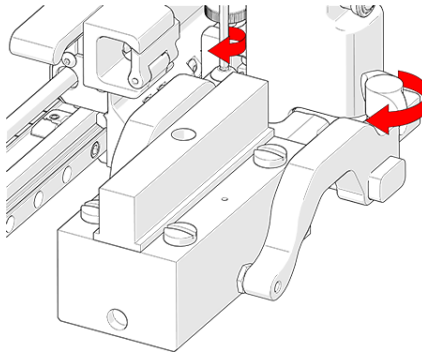

Figure 3-24 Tightening the arm screws
6. Tighten both the probe holder adjustment knob and the arm clamp screw while ensuring the wedge remains centered with the yoke (see Figure 3-24 on page 58).